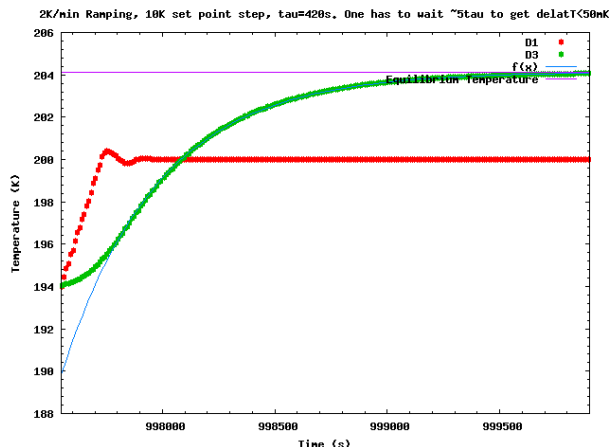

Figure 7.17: Typical example of the temperature relaxation for Konti-3.
3. At high temperature, the real sample temperature follows the sensor read back with a big delay τ (see Fig. 7.16 circles and Fig. 7.17).